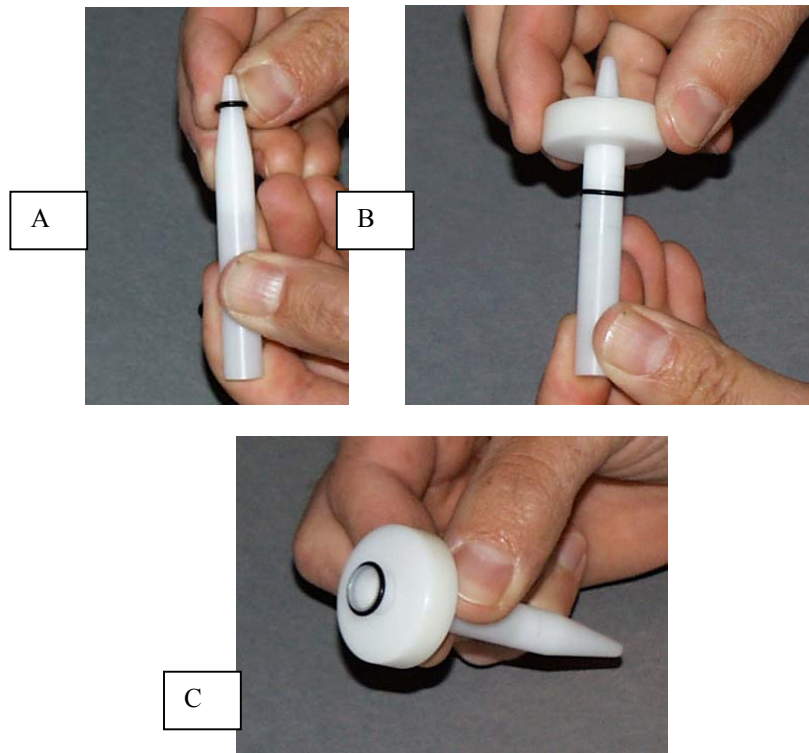

Figure 2-15. Sliding an O-Ring onto the Insertion Tool Bar
18. Attached to the motor is the impeller (Fig 2-15). Loosen the setscrew in the center and pull the impeller away from the motor. This will leave the blower backing plate on the motor.